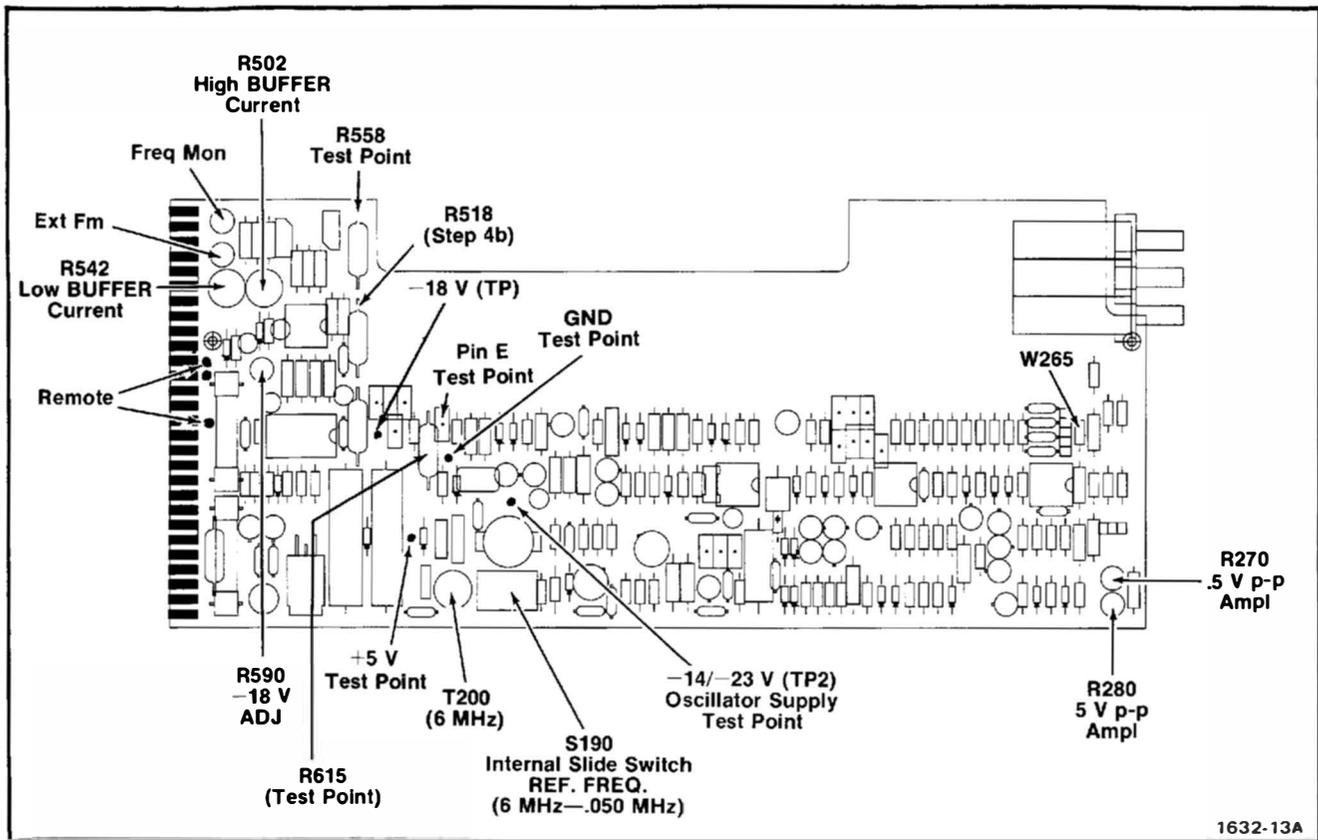
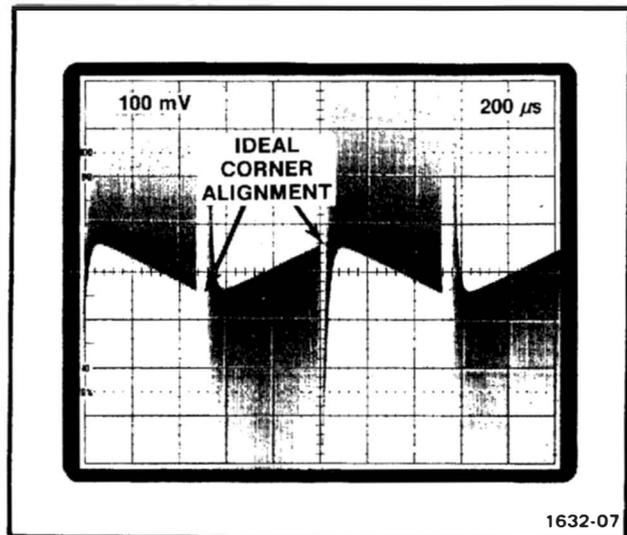
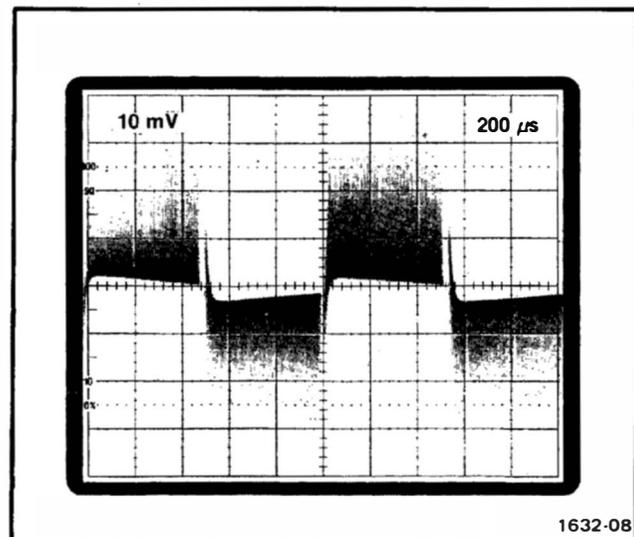

Fig. 3-1. Location of test points, connectors, and adjustments on main circuit board.
Fig. 3-2. Display of complex waveform (idealized) with 5 volt reference amplitude at 0.05 MHz, properly set.
Fig. 3-3. Display of complex waveform (idealized) with 0.5 volt reference amplitude at 0.05 MHz, properly set.
- Connect the digital voltmeter between the -18 V test point and Gnd test point on the Main circuit board. See Fig. 3-1 for voltage test point location.
- Adjust—-18 V adj, R590, for a meter reading of 18 volts. See Fig. 3-1 for adjustment location.
- Connect the digital voltmeter between the +5 V test point and Gnd test point on the Main circuit board. See Fig. 3-1 for voltage test point location.
- Connect the digital voltmeter between the -14/-23 V (TP2) test point and Gnd test point on the Main circuit board. See Fig. 3-1 for voltage test point location.
a. Connect the digital voltmeter across R615. See Fig. 3-1 for location.
b. Connect a $330\ \Omega$, 1 W resistor between the $-14/-23\text{ V}$ (TP2) testpoint and Gnd test point on the Main circuit board. See Fig. 3-1 for location.
a. Connect the digital voltmeter between Pin E test point and Gnd test point on the Main circuit board. See Fig. 3-1 for location.
f. Set the SG 504 internal slide switch, S190, to the 6 MHz position. See Fig. 3-1 for switch location.
d. Set the time-base triggering controls for a stable display; a crt display similar to Fig. 3-2 is obtained.
e. Adjust—5 V P-P Ampl. R280, so the corners of the idealized waveform are aligned as illustrated in Fig. 3-2. See Fig. 3-1 for adjustment location.
i. Set the time-base triggering controls for a stable display; a crt display similar to Fig. 3-3 is obtained.
j. Adjust—5 V P-P Ampl, R270, so the corners of the idealized waveform are aligned as illustrated in Fig. 3-3. See Fig. 3-1 for adjustment location.
g. Connect the digital voltmeter between R558 test point (top of resistor) and Gnd test point on the Main circuit board. See Fig. 3-1 for test point location.
i. Disconnect the positive lead of the digital voltmeter from R558 test point and connect it to $-14/-23$ V (TP2) test point. See Fig. 3-1 for test point location.
f. Connect the digital voltmeter between R518 test point (top of resistor) and Gnd test point on the Main circuit board. See Fig. 3-1 for test point location.
k. Disconnect the positive lead of the digital voltmeter from R518 test point and connect it to $-14/-23$ V (TP2) test point. See Fig. 3-1 for test point location.
o. Disconnect the digital voltmeter and reconnect it across R615. See Fig. 3-1 for location.